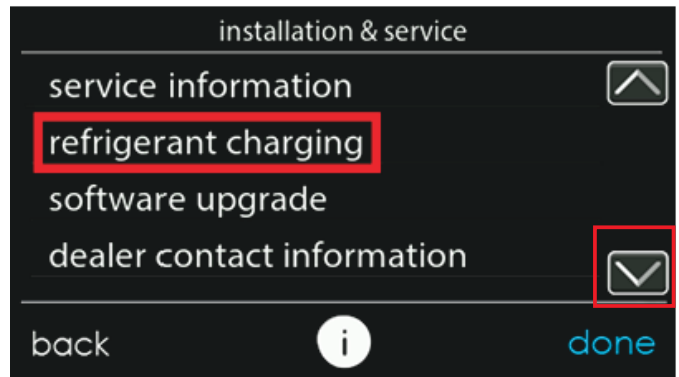

Fig. 48 – Installation and Service Menu
2. In the “installation and service” menu of the Infinity® System Control (see Fig. 47), go to “refrigerant charging” and then “pump down” (see Fig. 48 and Fig. 49).